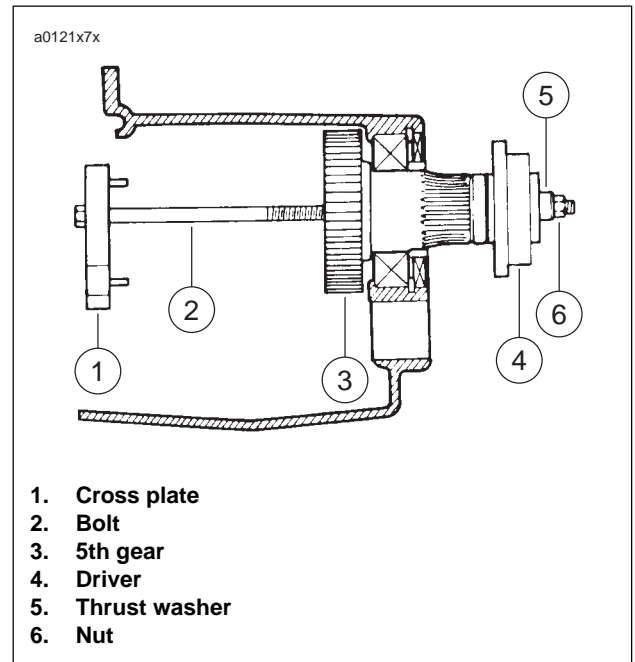

Figure 6-39. Removing Main Drive Gear
5. See Figure 6-39. Assemble MAIN DRIVE GEAR REMOVER AND INSTALLER (Part No. HD-35316A) with CROSS PLATE (Part No. B-45847).
6. Insert bolt (2) through cross plate (1) and 5th gear (3).